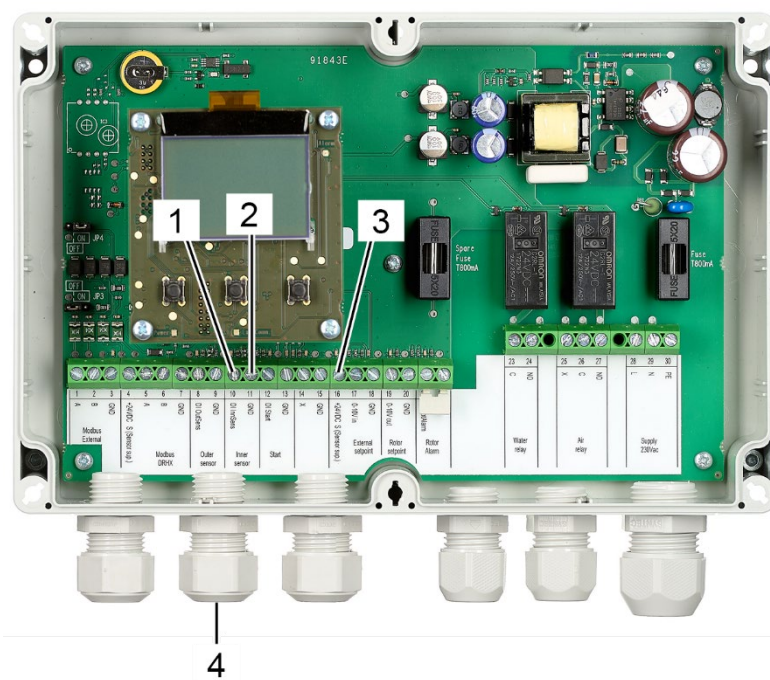

Fig. 86: Cable socket and terminals rotor centre proximity sensor
10. Insert the wires of the rotor centre proximity sensor connection cable through the cable socket (Fig. 86/4).
11. Connect the black signal wire to terminal 10 (Fig. 86/1, DI InnSens) of the rotor cleaner control.
12. Connect the blue ground wire to terminal 11 (Fig. 86/2, GND) of the rotor cleaner control.
13. Connect the brown power supply wire to terminal 16 (Fig. 86/3, +24 VDC S (Sensor sup.)) of the rotor cleaner control.